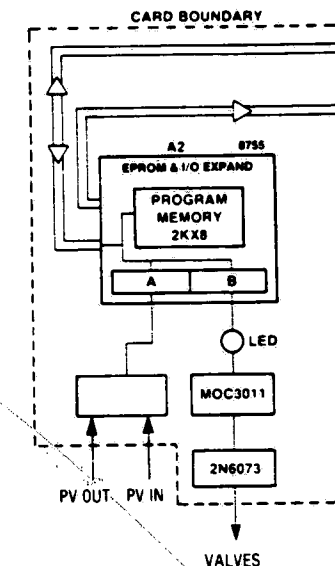

Figure 3-10. I/O #2 PRINTED CIRCUIT BOARD.
**I/O Printed Circuit Board #2 (P-146590; Refer To Figure 3-10)**